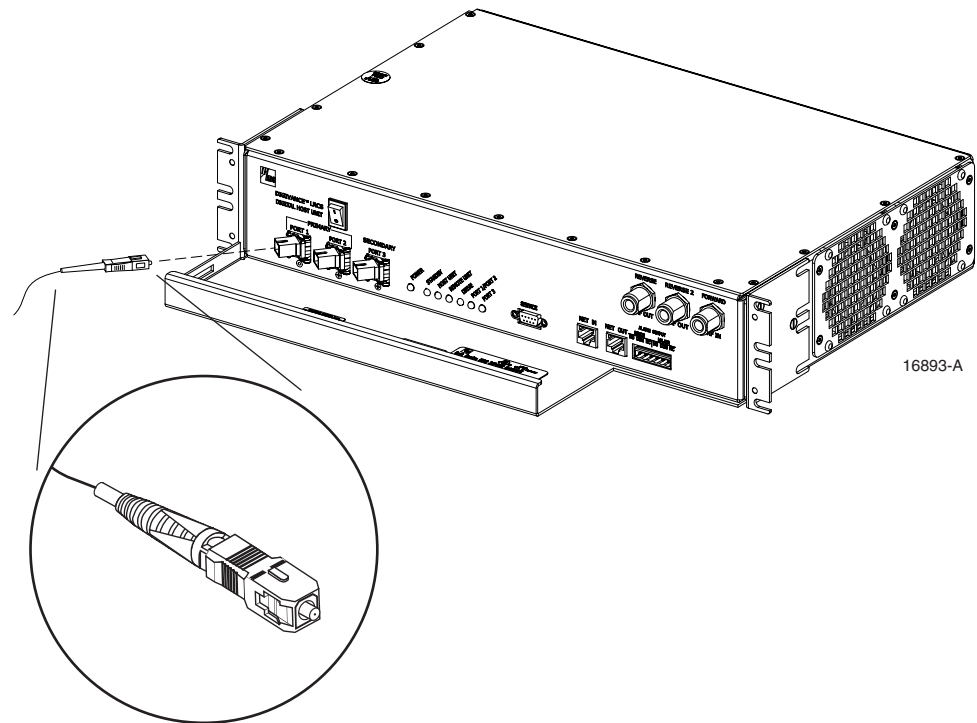
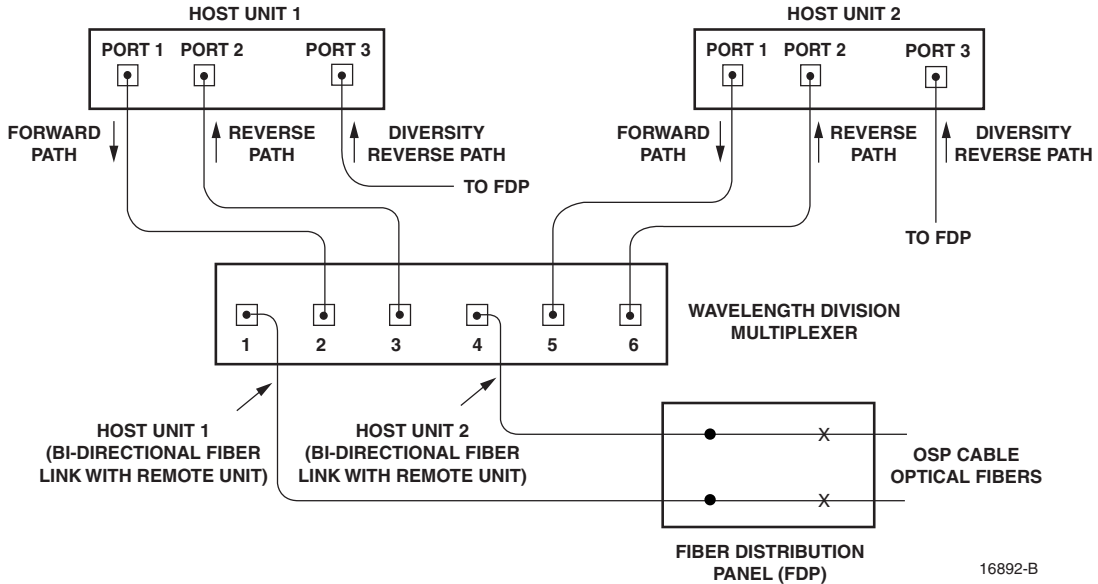

Figure 3-9. Fiber Optic Cable Connections To Host Unit
Figure 3-10. Fiber Optic Connections To WDM Module
4. Clean each patch cord connector (follow connector supplier's recommendations) and then insert the connector into the appropriate optical port as shown in Figure 3-9 and as specified by the following:
- ▶ **Note:** Each WDM module can support two separate HU's. The WDM module ports are numbered from 1 through 6 as shown in Figure 3-10. Ports 1 through 3 are used for HU #1 and Ports 4 through 6 are used for HU #2.
10. Clean each pigtail connector (follow connector supplier's recommendations) and then insert the connector into the appropriate optical port on the HU as shown in Figure 3-9 and as diagramed in Figure 3-10.